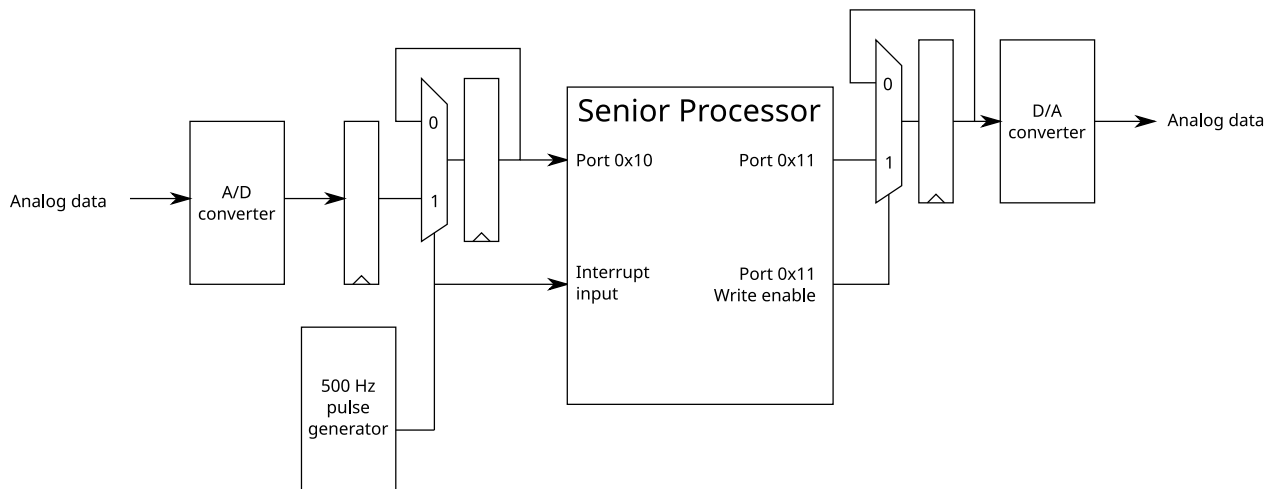

Figure 1.1: The Senior processor as connected to an A/D and D/A converter.
- ❓ Approximately how many clock cycles does it take from an interrupt is generated to the time when a new sample is presented on the output of the D/A converter under the assumption that the Senior Processor is connected as shown in Fig. 1.1?